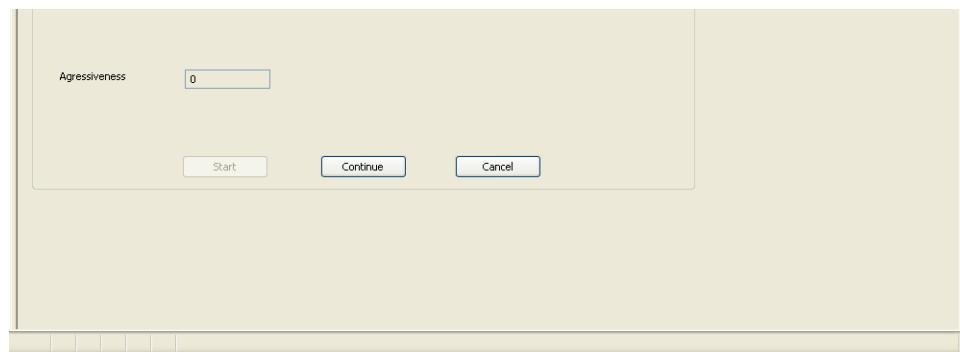

Figure 60 Calibration Aggressiveness Screen
2. Click **Continue** and Figure 60 appears.